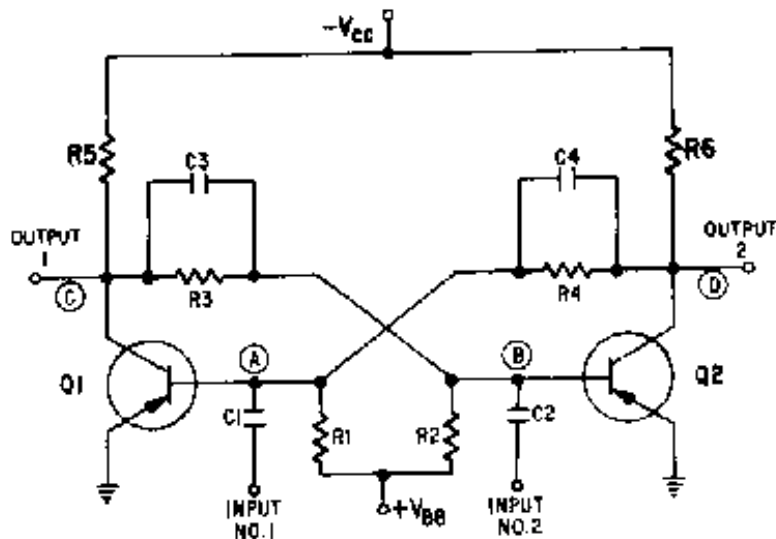

Figure 3-18.—Basic flip-flop.
The bistable multivibrator that most technicians know is commonly known by other names: the ECCLES-JORDAN circuit and, more commonly, the FLIP-FLOP circuit (figure 3-18). The flip-flop is a bistable multivibrator, "bi" meaning two; that is, the flip-flop has two stable states. The flip-flop (f/f) can rapidly flip from one state to the other and then flop back to its original state. If a voltmeter were connected to the output of a flip-flop, it would measure either a small positive or negative voltage, or a particularly low voltage (essentially 0 volts). No matter which voltage is measured, the flip-flop would be stable. Remember, stable means that the flip-flop will remain in a particular state indefinitely. It will not change states unless the proper type of trigger pulse is applied.
Notice that the basic flip-flop, illustrated in figure 3-18, has two inputs and two outputs. The inputs are coupled to the bases of the transistors and the outputs are coupled from the collectors of the transistors. Think of the flip-flop as two common-emitter amplifier circuits, where the output of one amplifier is connected to the input of the other amplifier, and vice-versa. Point (D) is connected through R4 to C4 to point (A). Point (A) is the input to transistor Q1. By the same token, point (C), which is the output of Q1, is connected through R3 and C3 to the input (point (B)) of transistor Q2.